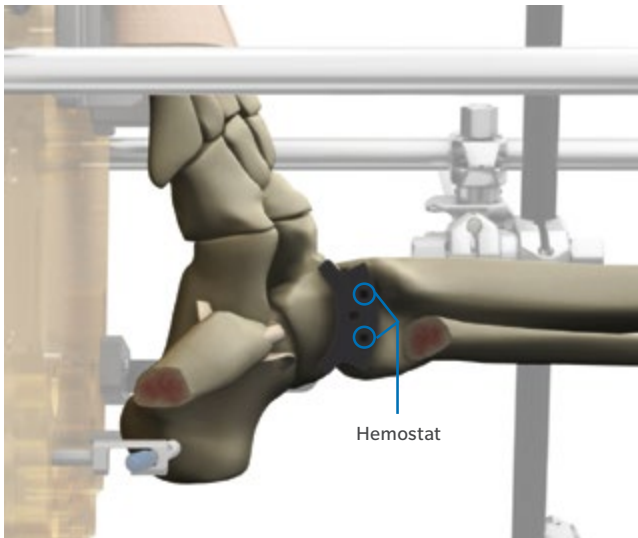

Fig. 32 Determine final implant size from A/P coverage.
- Use a small hemostat to hold the A/P Sizer against the lateral bone surface of the joint space to assess the resection curves and planned bone cuts for the selected size (Fig. 32).